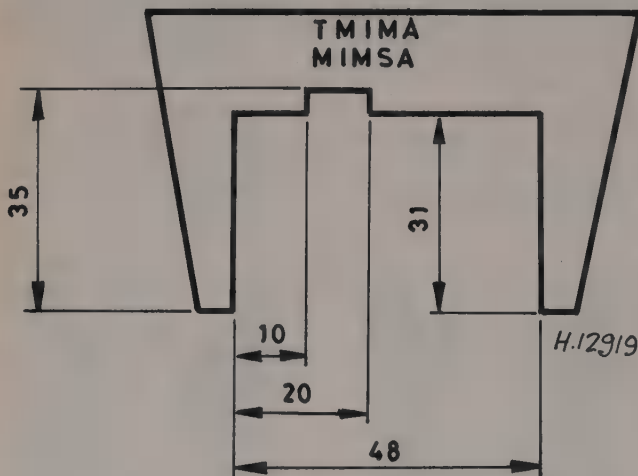

Fig. 3.16 Float level template dimensions (in mm) for the Solex 32-35 TMIMA (and MIMSA) (Sec 12)
- 13 To check the float level adjustment, make a cardboard template to the dimensions shown in Fig. 3.16. Lightly press on the float arm so that the needle valve ball is compressed, then use the template to check the float height without the gasket fitted (photo).